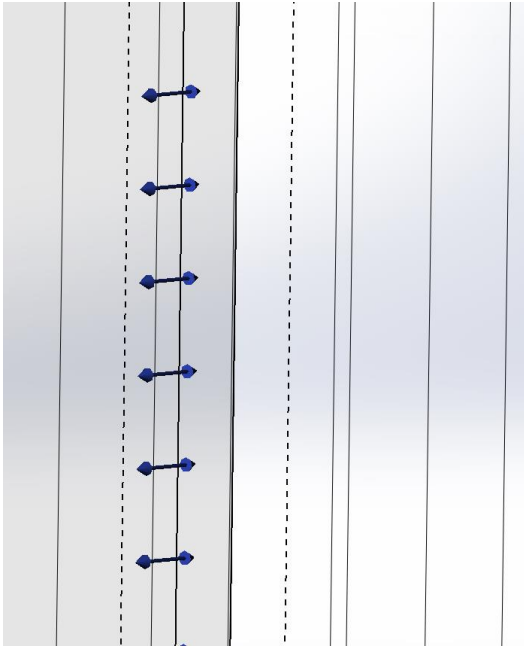

Figure 2.18b) Outlet static pressure boundary condition
18. Red arrows pointing in the flow direction appears indicating the inlet velocity boundary condition, see figure 2.17d). Right click in the graphics window and select **Zoom to Fit**. Right click again in the graphics window and select  **Rotate View** once again to rotate the part so that the inner right surface is visible in the graphics window. Right click and click on  **Select**. Right click on  **Boundary Conditions** in the **Flow Simulation analysis tree** and select **Insert Boundary Condition...** Right click on the outflow boundary surface and select **Select Other**. Select the Face corresponding to the outflow boundary.. Click on the **Pressure Openings** button in the **Type** portion of the **Boundary Condition** window and select **Static Pressure**. Click OK  to exit the window. If you zoom in on the outlet boundary you will see blue arrows indicating the static pressure boundary condition, see figure 2.18b).